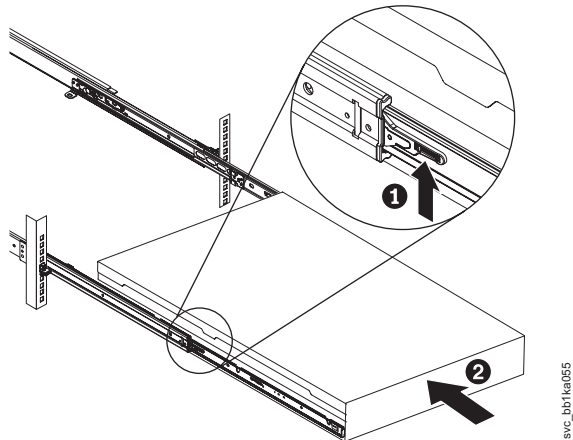

Figure 230. Raising the SAN Volume Controller 2145-CF8 locking levers of the slide rails of the rack
9. Lift the locking levers ( **1** in Figure 230) on the slide rails and push the server **2** all the way into the rack until it clicks into place.